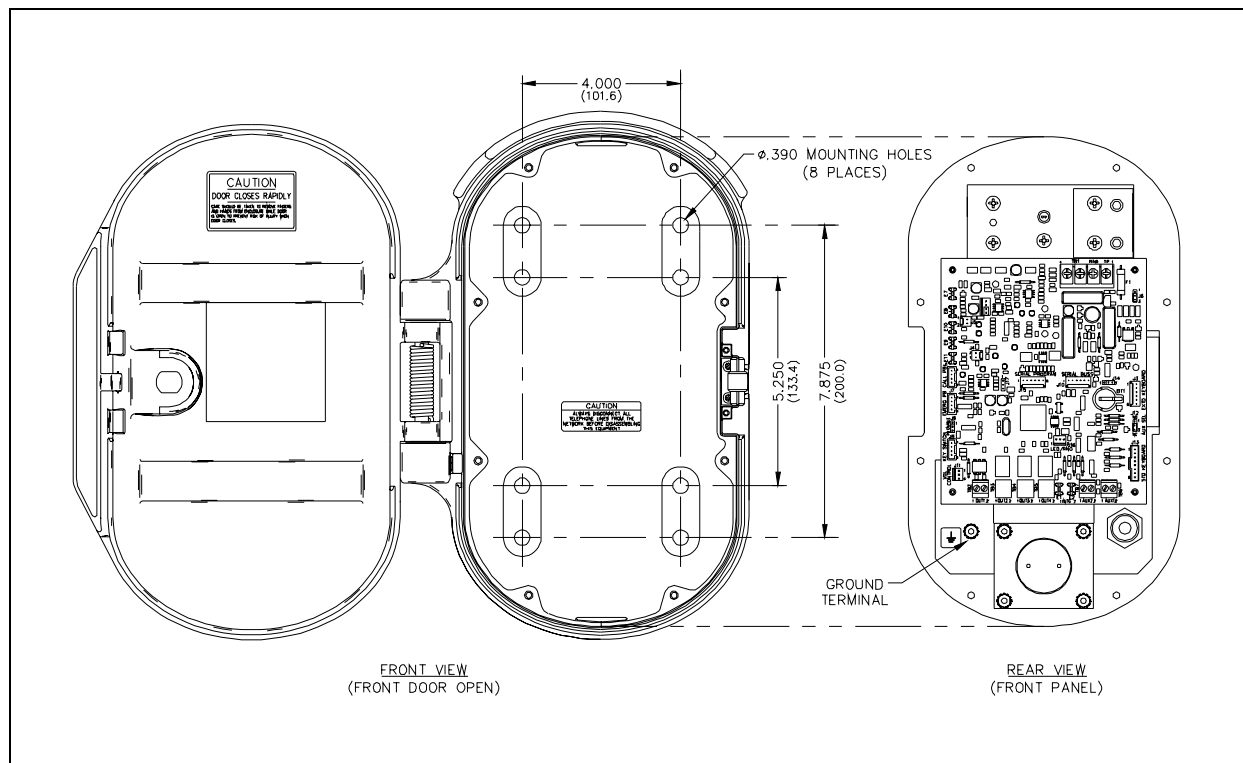

Figure 5. Model 226-003 Mounting Details
2. There are eight mounting holes in the back of the enclosure in two 4-hole patterns. Determine which hole pattern will be used for mounting. See Figure 5.